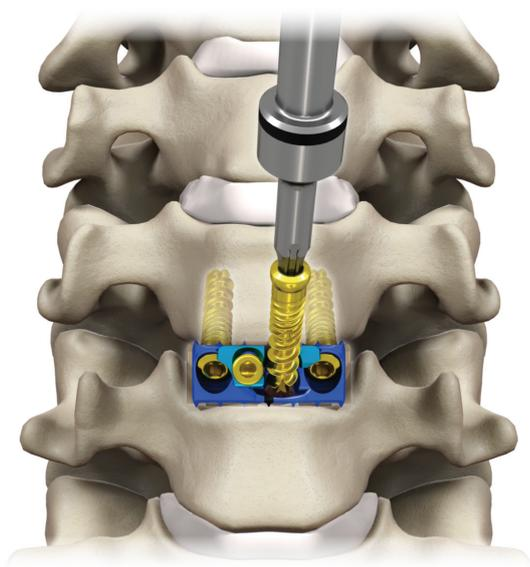

Figure 19
- Remove the awl/drill and guide. Load the desired screw onto the 2.0 mm hex driver. Insert the screw through the midline screw hole, advancing the screw until the screw head contacts the plate to stabilize the implant. Ensure that the driver is on axis to the prepared screw trajectory during screw insertion and final tightening (Figure 19).